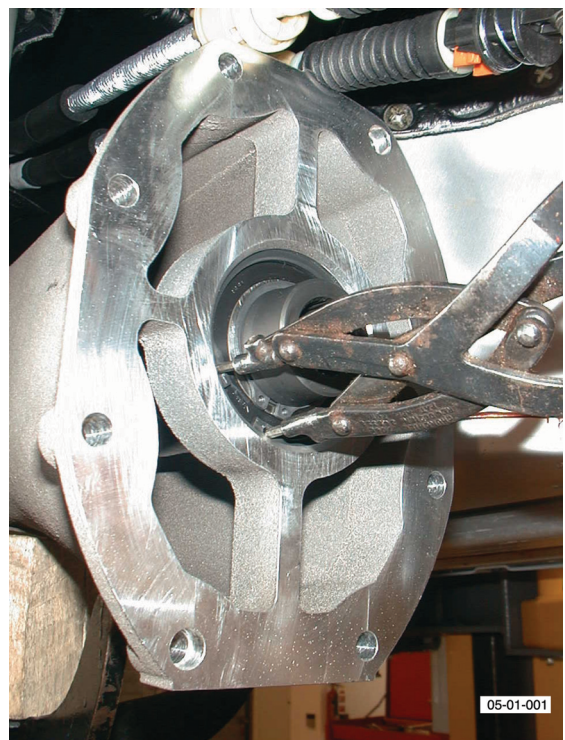

Fig. 1
6. Remove large circlip using special tool (see Fig. 1).